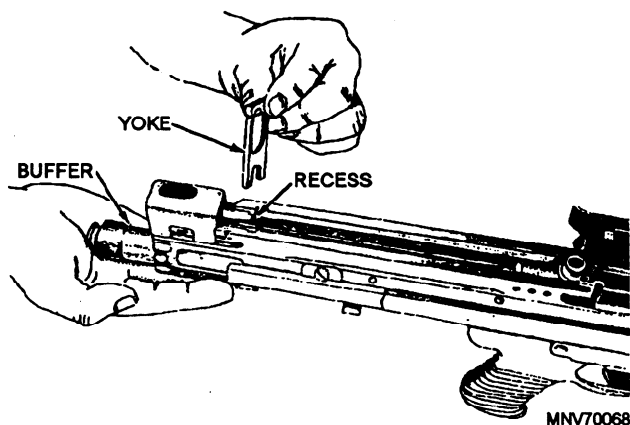
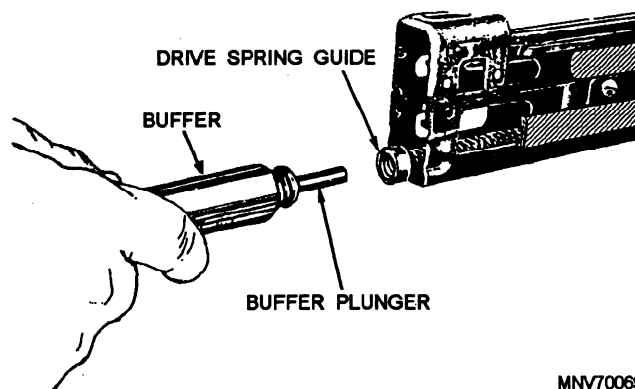
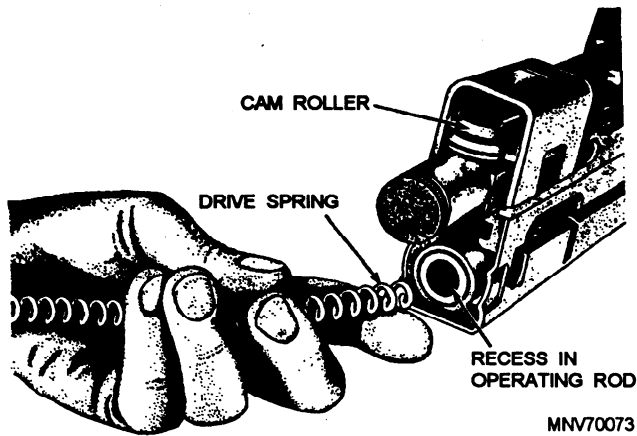

Figure 2-55.—Removing the buffer group.
Figure 2-56.—Separating the buffer from the drive spring guide.
Figure 2-60.—Inserting the drive spring.
REMOVING THE BUFFER GROUP.—The buffer assembly group consists of the buffer yoke and the buffer. To disassemble the group, hold the palm of your hand against the exposed buffer and press the buffer lightly. Remove the buffer yoke from the top of the receiver as illustrated in figure 2-55. Withdraw the
buffer slowly. Allow the drive spring to expand until the end of the drive spring guide is exposed at the rear of the receiver. Pull the buffer plunger from the drive spring guide (fig. 2-56).
and the bolt into the receiver until the end of the operating rod is even with the rear of the receiver. Insert the drive spring guide into the drive spring; then insert the opposite end of the drive spring into the recess of the operating rod, as shown in figure 2-60. Pull the trigger and push in the drive spring until the head of the guide is approximately one inch from the receiver (fig. 2-56).
4. Insert the buffer plunger into the drive spring guide, as shown in figure 2-56. Push forward on the buffer until the operating rod and the bolt go fully forward. Push in on the buffer until the recesses on the buffer are aligned with the recesses in the receiver. Replace the buffer yoke from the top of the receiver, as shown in figure 2-55.